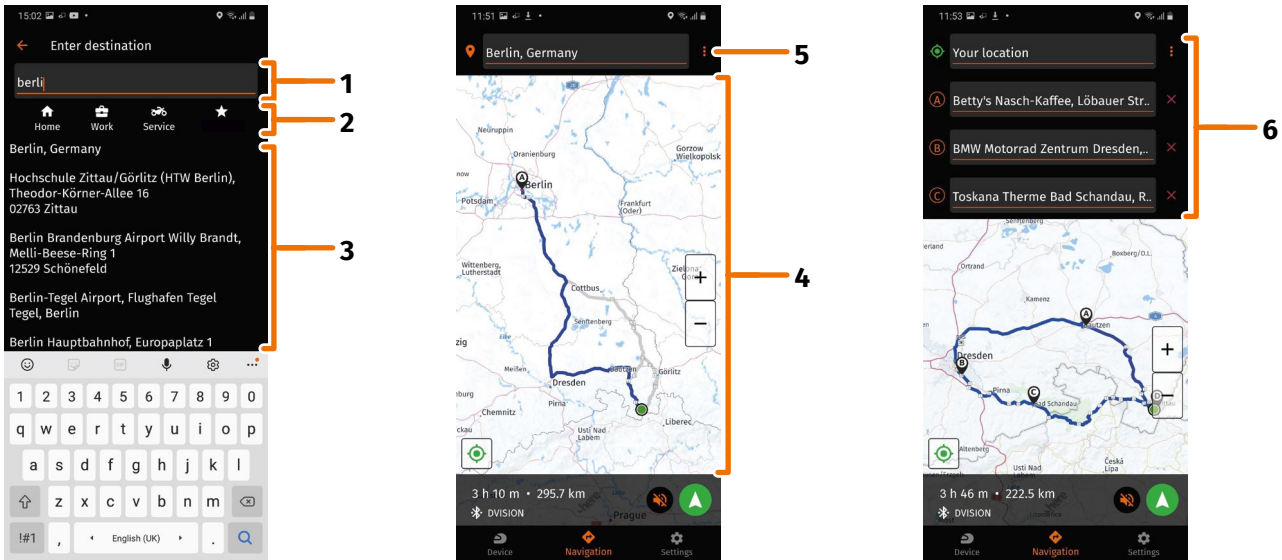

FIGURE 16 // Choosing a destination in the DVISION app
- // Tap on the destination input field (FIGURE 16/1) via the navigation map and enter your destination. As the input progresses, matching destinations are displayed below the destination input field.
- // Or you can search for your destination on the navigation map (FIGURE 16/4), tap on it and briefly keep the finger on the map. The DVISION app recognises the destination and adds it to the destination input field.
- // Or you can select a personal destination from your favourites (FIGURE 16/2). To do so, tap on the destination input field and select a destination from your favourites. The DVISION app adds the destination to the destination input field.
- // Or you can select a destination from your recent history (FIGURE 16/3). To do so, tap on the destination input field and select one of your recent destinations from the list below your favourites. The DVISION app adds the destination to the destination input field.
2. If you want, you can add up to ten stops to your route (FIGURE 16/6). To do so, tap on the three dots next to the destination input field (FIGURE 16/5) and choose “Add stop”.
4. If you want to change the order of the stops, tap one of the stops (FIGURE 16/6) and hold briefly. Then drag the destination into the desired position and release.
5. To do so, tap on the three dots next to the destination input field (FIGURE 16/5) and choose “Route options”.